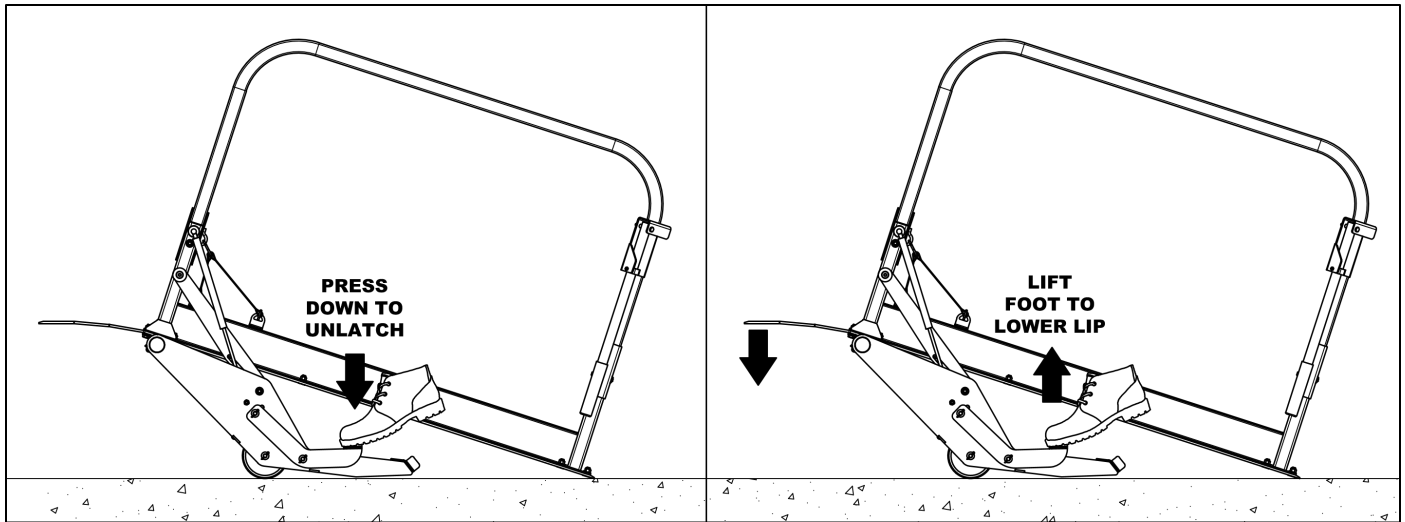

Figure 3
4. Begin to lower the lip into the vehicle by pressing on the RED footpad to disengage the locking link. Slowly lift your foot from the footpad to allow the lip gently fall into the vehicle (see Figure 3).